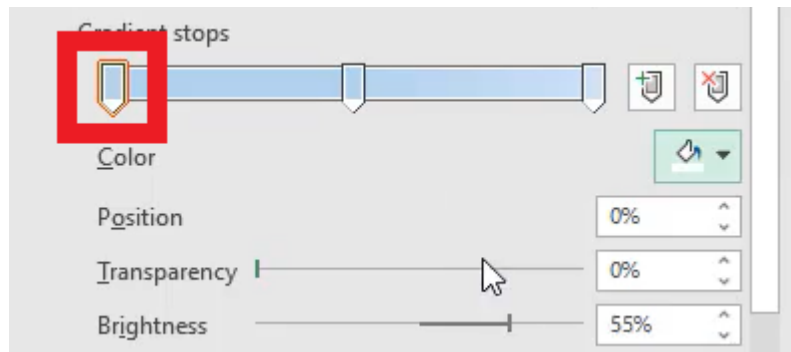

Figure 37.39
4. In the bottom stop, change the color to white at the bottom. (See **Figure 37.39**)